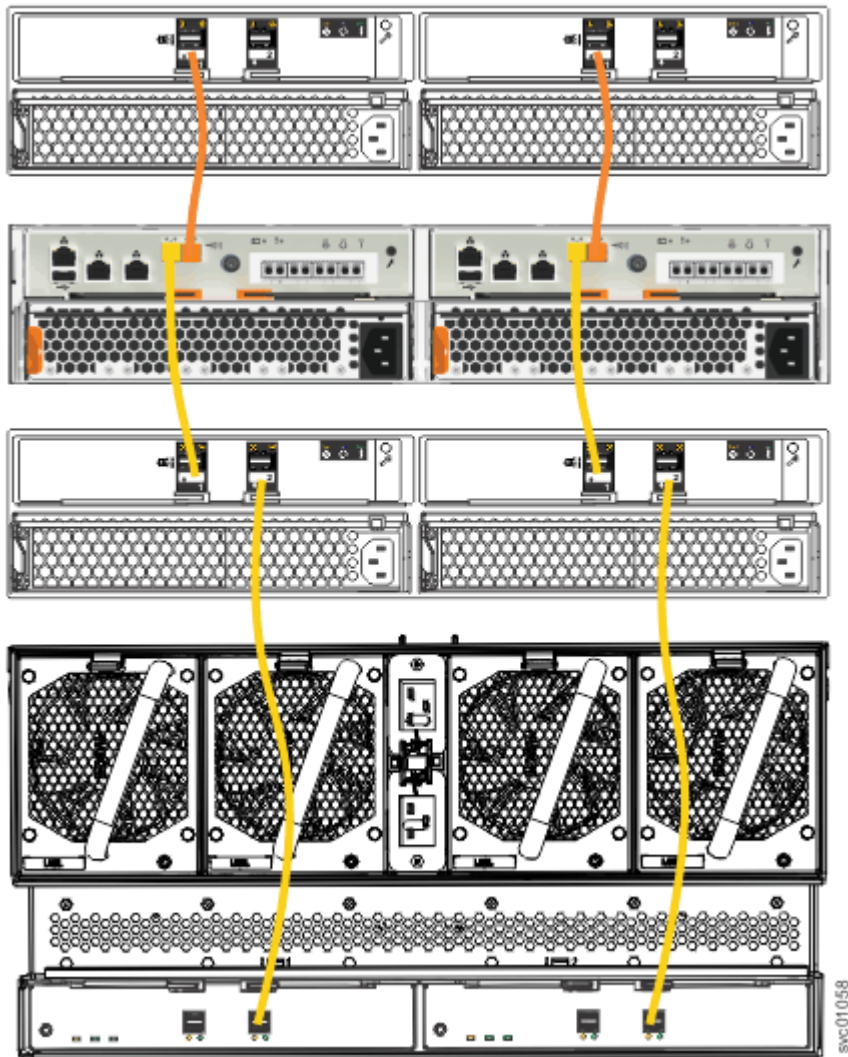

Figure 62. Connecting the SAS cables
1. Install the cables, as shown in Figure 62 on page 73.
**Note:** Figure 62 on page 73 shows the cable connections between the SAS enclosures and the Storwize V5030E control enclosure. It does not imply or represent the precise racking order for the enclosures in a rack. However, due to its size and weight, always place the 2072-92F enclosure near the bottom of the rack.
As Figure 62 on page 73 shows, you can combine 2U and 5U expansion enclosures in a SAS chain. The limiting factor is the combined *chain weight* of the various components. The maximum SAS chain weight that can be attached to a node SAS port is 10: